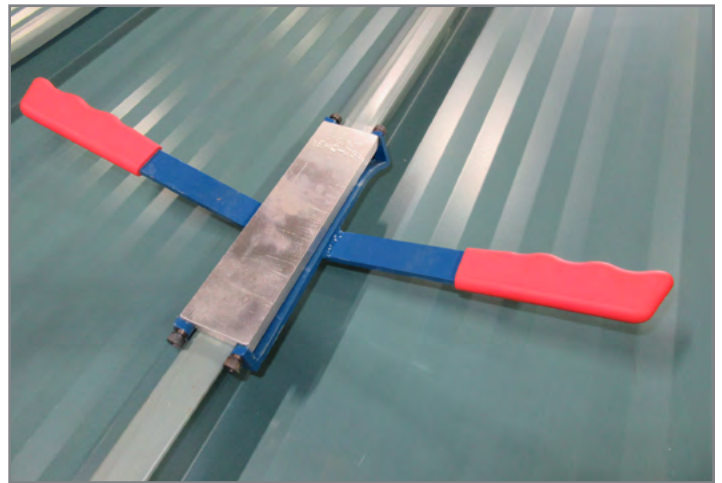

FIG. 1: HAND SEAMING TEE-LOCK SIDELAP TO PROVIDE A STARTING POINT FOR SEAMING MACHINE
**THE BERRIDGE MODEL TP-24 PORTABLE ROLL FORMER** is a precision-manufactured machine designed to provide high quality "Job site" production capability for installers of the Berridge Tee-Lock standing seam roof (Fig. 1).
4. Prepare the sidelap seam for machine seaming by crimping the starting end of the sidelap using the Hand Crimper Tool (Fig. 1). This creates a seamed area where the Tee-Lock Seamer Machine will be positioned to commence seaming the sidelap. Crimp the sidelap every 4'-0" prior to seaming.